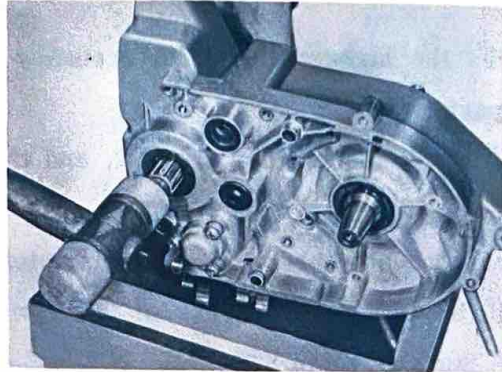

Fig. IV-15-4
- 2) Remove both the transmission assembly and the shift forks from the crankcase, while tapping the drive shaft end with a plastic-tip hammer. (Fig. IV-15-4)